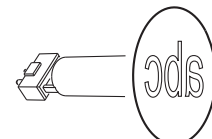
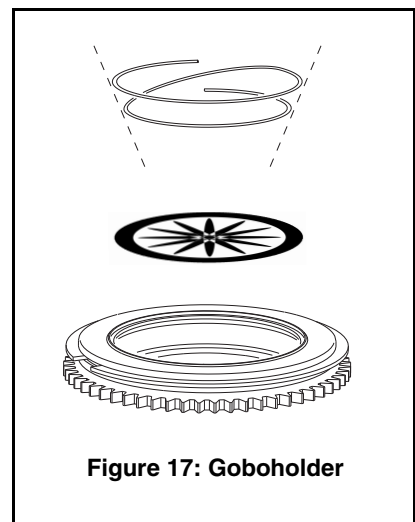

Figure 13. Correct gobo orientation
Figure 17: Goboholder
The orientations shown in Figure 13 are correct in most cases, but consult your Martin dealer or gobo supplier if you are in any doubt about the orientation of a specific gobo type.
Correct gobo orientation is critical. Read the guidelines in Figure 13 carefully before installing a gobo.
- See Figure 17. With a small screwdriver or similar, unhook the end of the gobo spring furthest from the gobo and pull out the spring. Drop the gobo out of the holder onto a clean, soft surface.
- Insert the new gobo in the holder with that must face towards the lamp – the more reflective side – facing upwards towards the spring (see Figure 17 and Figure 13).
11. Insert the spring with the narrow end against the gobo, as shown in Figure 17. To identify the narrow end, press the spring flat: the narrow end is on the inside. Push the wide end of the spring in under the lip of the holder.